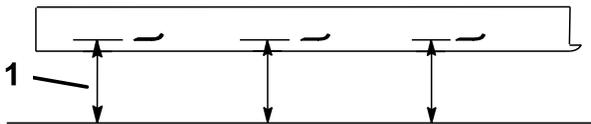

Figure 49
2. Measure from a level surface to the cutting edge, position A, of the blades (Figure 49). Note this dimension.